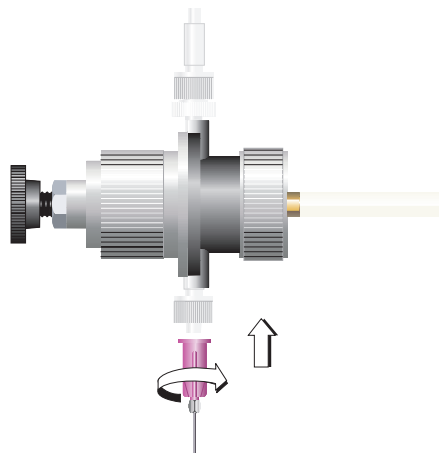

FIGURE 6
3. Install Dispensing Needle into Luer Lock Fitting on exit side of (7) Pinch Tube on Valve with twisting action. (Refer to figure 6)